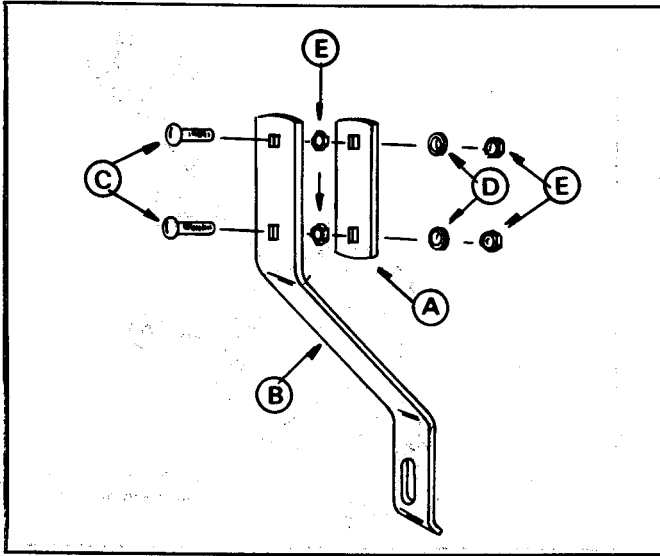

FIGURE 8.
FIG. 8. Attach strap (A) to lift handle support bracket (B) using two 5/16" x 1" carriage bolts (C) and lock washers (D), and four hex nuts (E) as shown. Tighten securely.